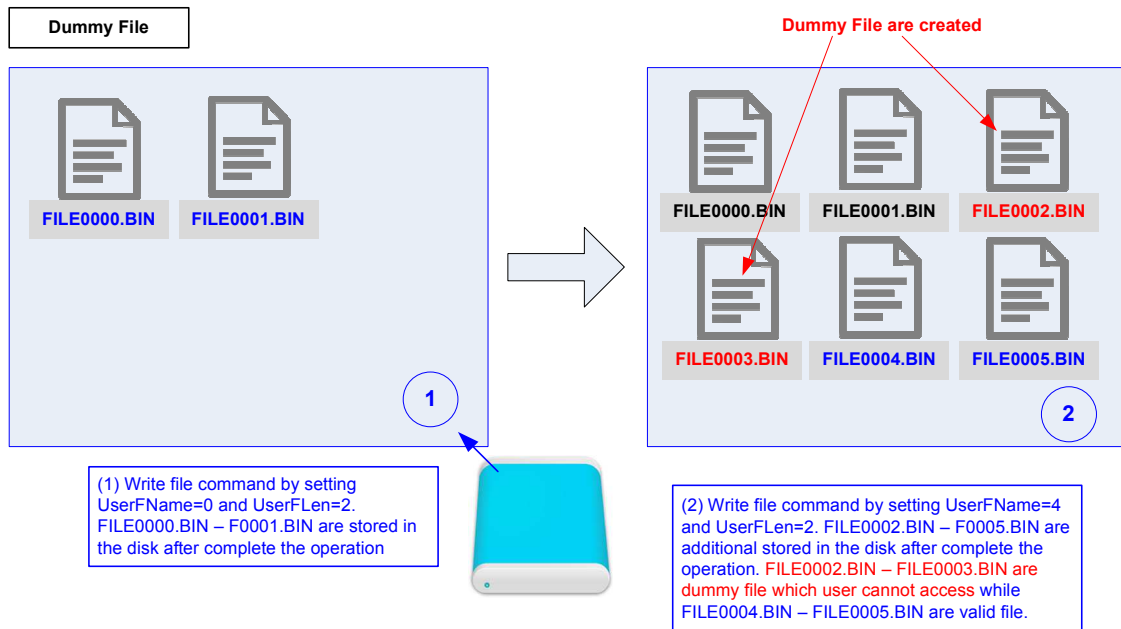

Figure 8: Write file command but UserFName is more than normal value
- a) When UserFName is more than the next value of the latest file, the dummy file which cannot be accessed is created between the latest file and the 1st new file, as shown in Figure 8.